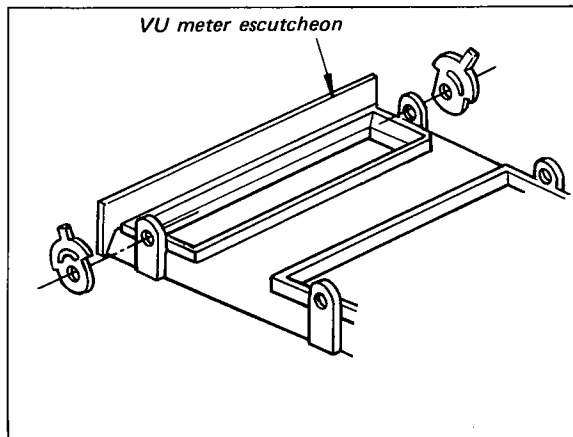
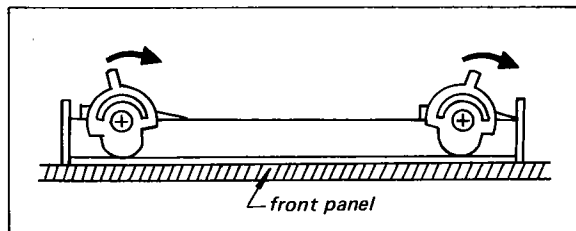

Fig. 2-5. Retainer reinstallation
Fig. 2-6. Fixing the escutcheon
**Note:** Always install the retainer correctly as shown in Fig. 2-5, otherwise the escutcheon does not fit properly. Always fix the escutcheon in place by turning the retainer as shown in Fig. 2-6, when performing reinstallation.